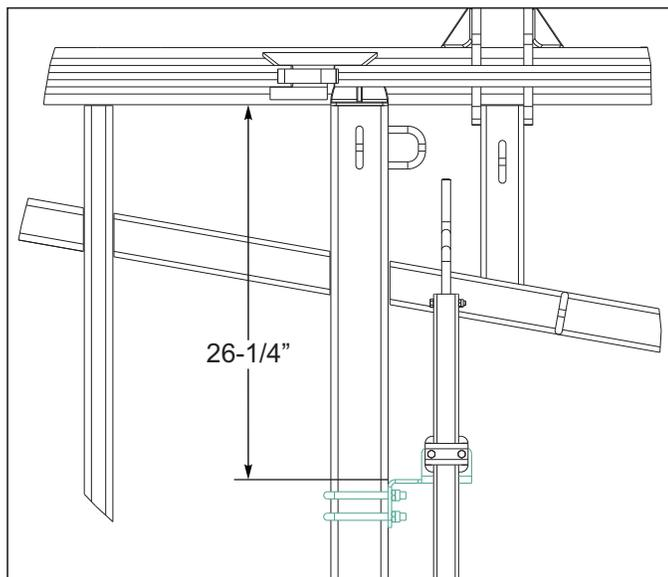

Figure 3-1: DCV Mount Placement
6. Attach the DCV mount bracket to the side of tube of LH center frame assembly with 1/2 x 5-1/4 x 6-1/16 u-bolts and 1/2 lock nuts. See Figures 3-1 for placement.